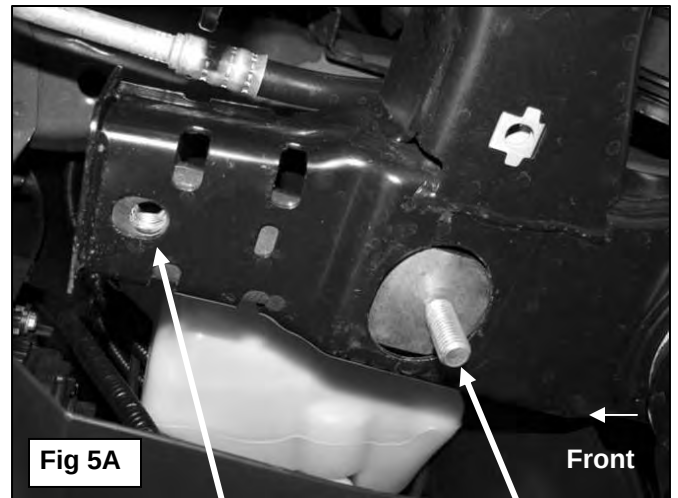

Fig 5A
- a. **Vehicles without air inlet:** Repeat **Steps 2 & 3** for passenger side Frame Mounting Bracket installation, **(Figures 5A, 5B & 5C)**.